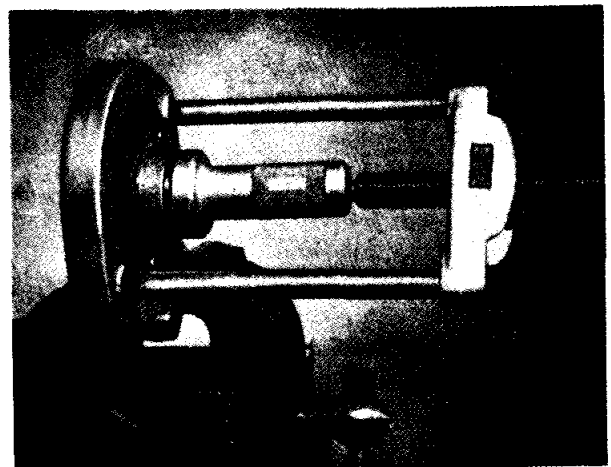

Fig. 8 Replacing hub oil seal utilising Churchill Tool No. M29.
- (a) The replacement of the hub oil seal is shown in Fig. 8, utilising Churchill Tool No. M29.